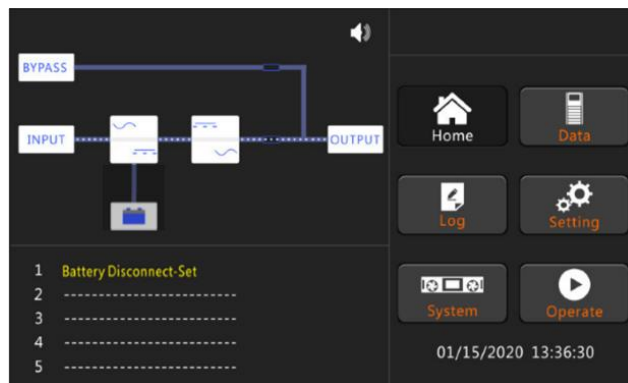

Fig.4-4 LCD of inverter mode
7. After about 30S, when the inverter is running normally, the UPS switches from the bypass to inverter, the bypass indicator bar is off, the load indicator bar flashes, as shown in Figure 4-4.